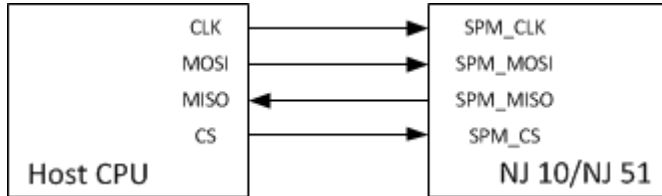

Figure 27: Serial Dual-Port Memory Interface
- You should apply a filter as displayed in *Figure 27: Filter for Power-on Reset Signal PORn*